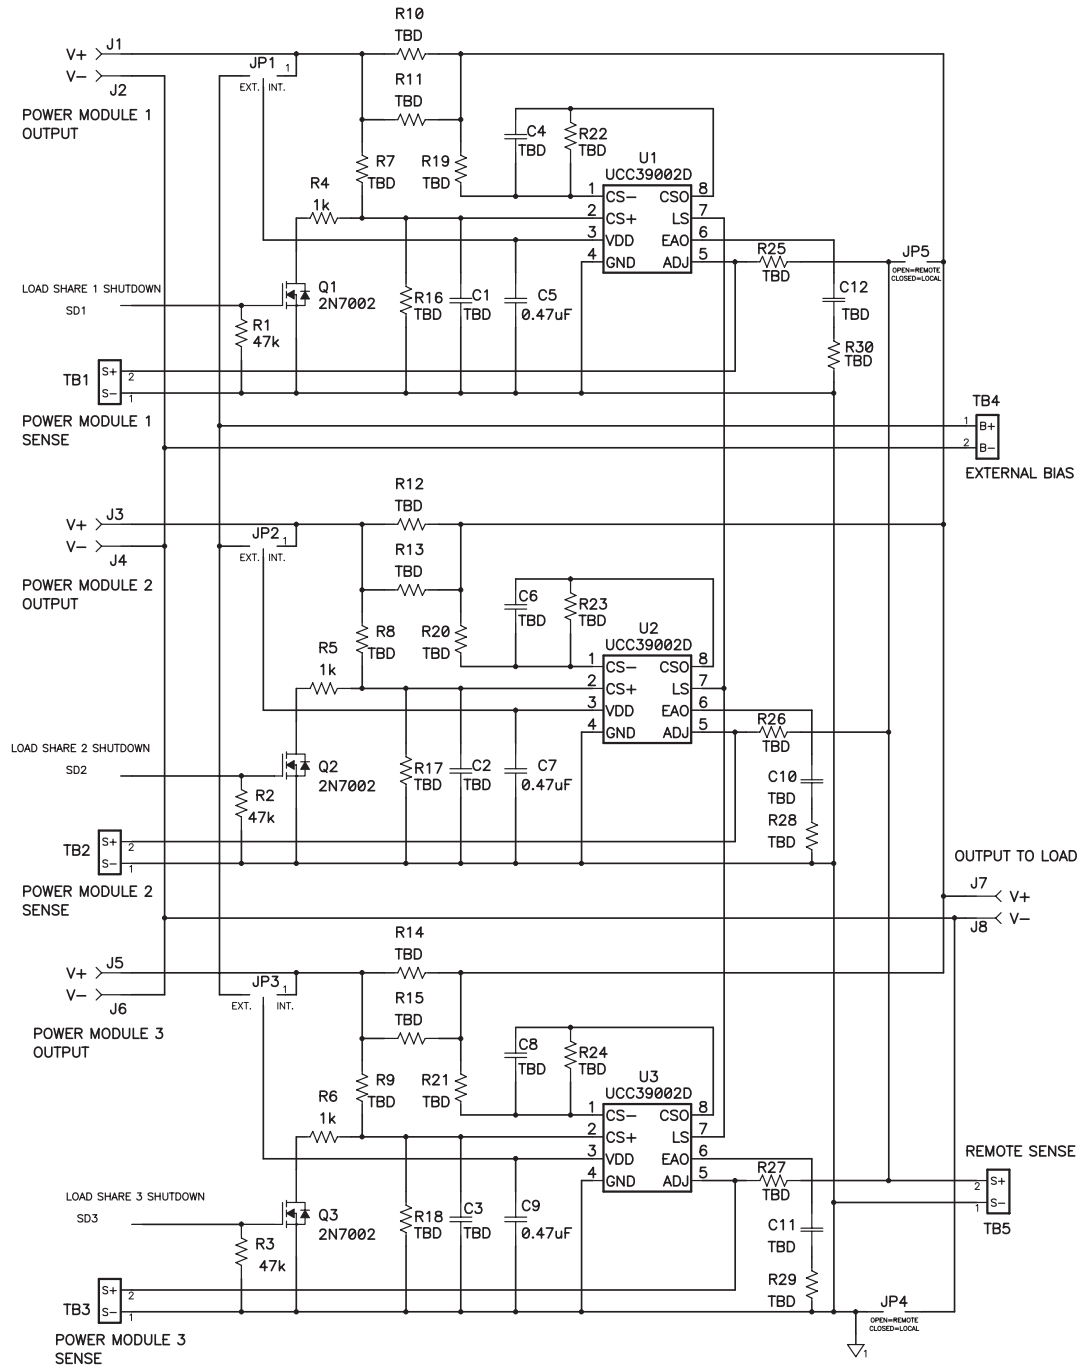
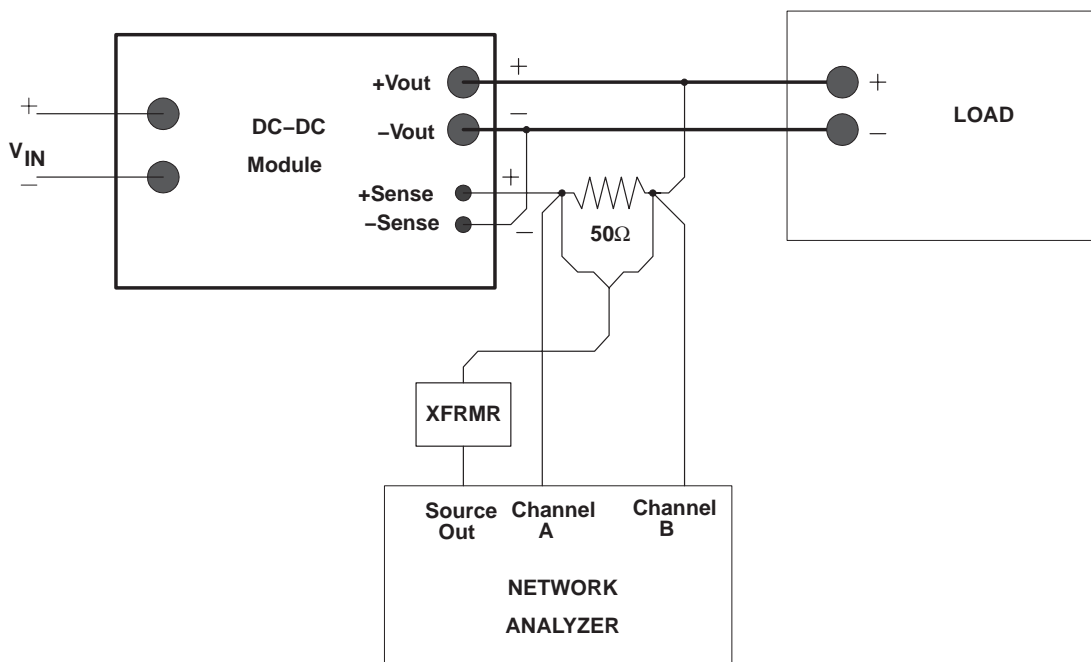
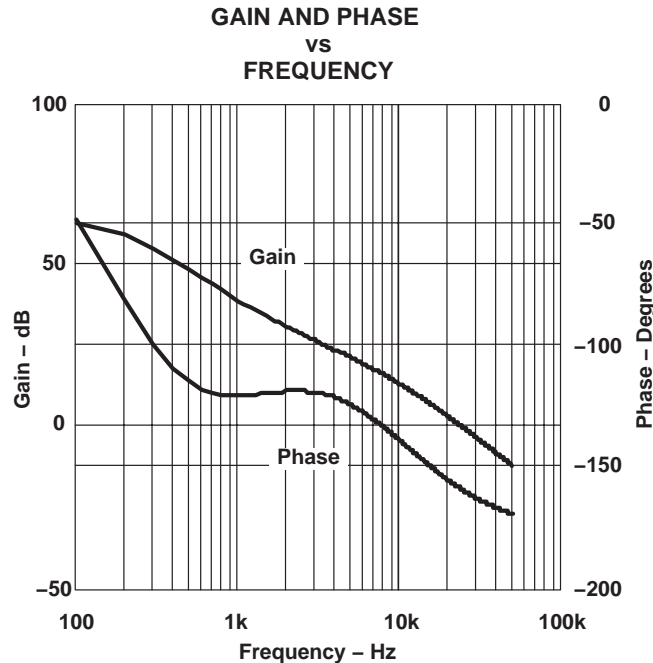

Figure 1. UCC39002 Load-Share Schematic
Figure 2. Measuring the Unity Gain Crossover Frequency
Figure 3
A schematic of a typical load-share design, where the outputs of three modules are being shared, is shown in Figure 1. Note that one load-share controller is required for each module and the circuits are identical when three identical modules are used. Terminals J1 and J2 are connected to the  $+V_{OUT}$  and  $-V_{OUT}$ , respectively, of the first power module. Terminals J3, J4, J5, and J6 correspond to the other two modules positive and negative output pins. Terminal J7 connects the positive output bus to the load and J8 connects the negative output to the load.
The available evaluation boards come pre-populated with the load share controllers, VDD decoupling capacitors, and components for external controller shut down. This circuitry is shown in Figure 1 as U1, C5, Q1, R1, and R4 for the first module, U2, C7, Q2, R2, R5 for the second, and U3, C9, Q3, R3, and R6 for the third. By applying a 2-V signal onto the SD terminal of any of the three modules, the 2N7002 transistor is turned on, shorting CS+ to ground, resulting in that module's disconnect feature to be enabled. With the disconnect feature enabled, the UCC39002 disconnects itself from the load share bus and its adjust current is zero.
Power modules usually have a very low bandwidth to ensure proper operation with a variety of loads. The transfer function is determined using a network analyzer and injecting a small signal across a 20- $\Omega$  to 50- $\Omega$  resistor placed between the positive sense terminal and the positive voltage output terminal as shown in Figure 2. The resultant bode plot will show the dc gain and the unity gain crossover frequency of the module. Expect the module's crossover frequency to be within the range from 10 Hz to 30 kHz. The desired crossover frequency for the load-share loop is set well before the crossover frequency of the modules. This is accomplished by adding a zero to the compensation of the transconductance error amplifier as described in the error amplifier section. The unity gain crossover frequency is unique to the specific module and must be measured for each module type.
Figure 3 shows an example of the gain and phase frequency response measurement of a power module.
Other limitations for the sense resistor are the desired minimum power dissipation and available component ratings. The board provided has space for two 1-W 2512 resistors in parallel to be used for current sensing, as shown by R10 and R11 in Figure 1.
Referring to Figure 1, the CSA gain,  $A_{\text{CSA}}$ , is equal to:
The total impedance at CS– must be mirrored at the non-inverting input, CS+, of the differential amplifier, as shown by R7, R16, and C1 in Figure 1.
The Sense+ terminal of the module is connected to the ADJ pin of the load-share controller. By placing a resistor, R25 in Figure 1, between this ADJ pin and the load, an artificial Sense+ voltage is created from the voltage drop across  $R_{ADJUST}$  due to the current sunk by the internal NPN transistor. The voltage at the ADJ pin must be maintained at approximately 1 V above the voltage at the EAO pin. This is necessary in order to keep the transistor at the output of the internal adjust amplifier from saturating. To fulfill this requirement,  $R_{ADJUST}$  can be calculated using the following equation:
The total load-share loop must be configured for a unity gain crossover frequency well before the crossover frequency of the module,  $f_{CO\text{module}}$ , as measured in Figure 2 and shown in Figure 3. This is accomplished by placing a zero in the error amplifier compensation at least one decade before the module's crossover frequency. Compensation of the transconductance error amplifier is done by placing the compensation resistor,  $R_{EAO}$  shown as R30 in Figure 1, and capacitor,  $C_{EAO}$  shown as C12 in Figure 1, between EAO and GND. The values of these components are determined by the following loop gain equation:
6.  $A_{PWR(f_{CO})}$  is the measured gain of the power module at the desired inserted zero frequency, read from Figure 3 and converted from dB to V/V.